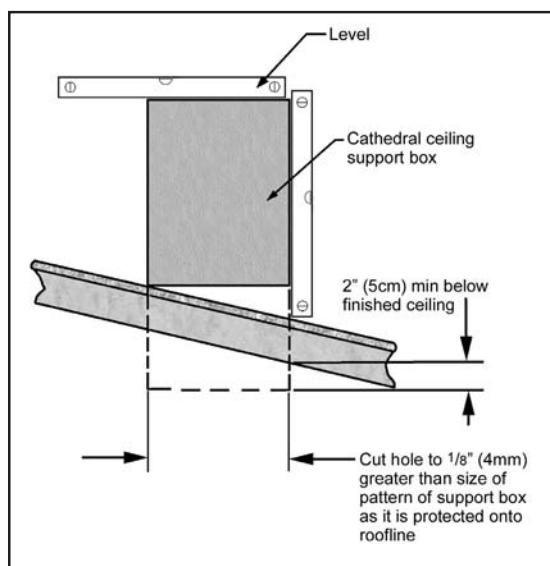

Figure 34: Cathedral Ceiling Support Box Leveling.
- Lower the Support Box through the hole in the roof until the bottom of the Support Box protrudes at least 2 inches (5 cm) below the ceiling. Align the Support Box both vertically and horizontally with a level as shown in Figure 34. Temporarily tack the Support Box in the place through the inside walls and into the roof sheathing.